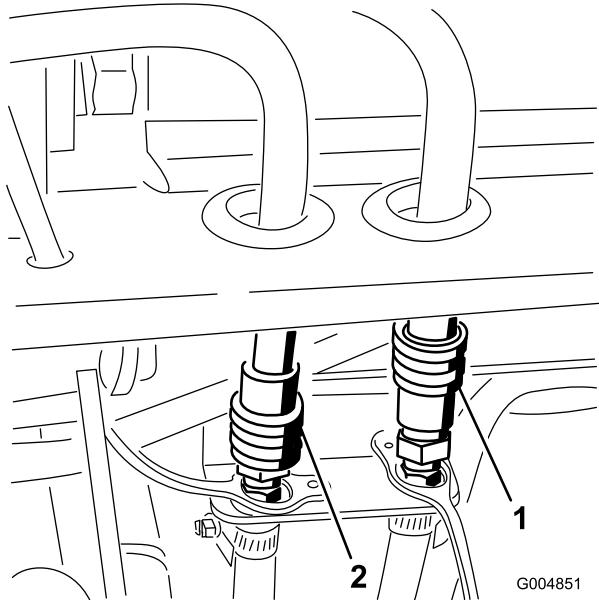

Figure 128
44. Connect the cab pressure and return hoses to the quick couplers on the rear frame mount (Figure 128).